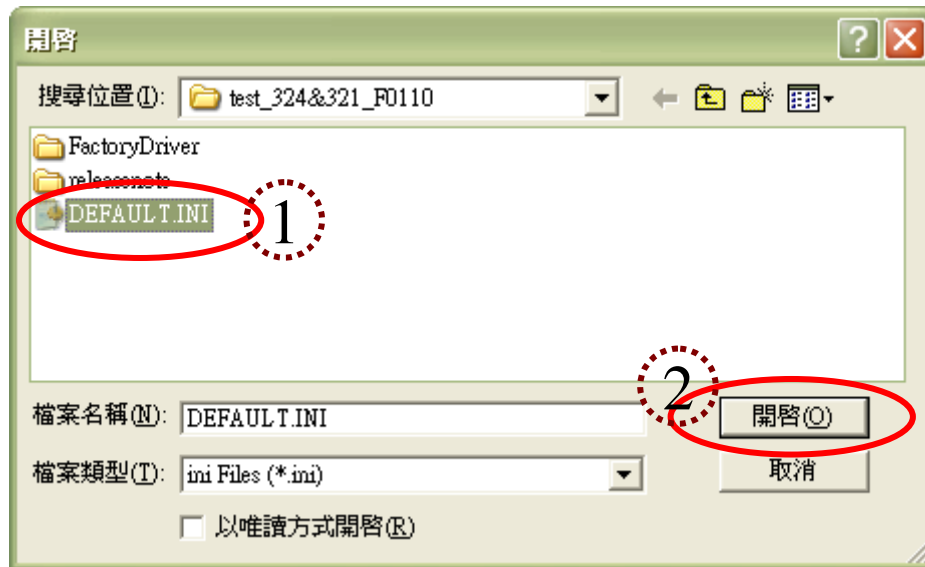

Fig. 3 Loading the INI file for 「Setting Function」.
- Loading the INI File:(see the Fig. 3)